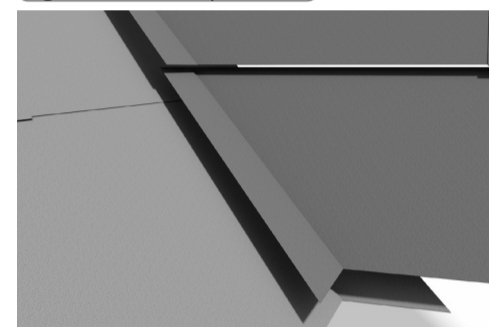

fig 8: Valley laps
8. Where valleys occur, the Danelaw LR120TT should be laid not less than 300mm beyond the centre line of the valley on each side (fig. 8). Where a continuous length of underlay is laid up the length of the valley, it should be a minimum of 600mm wide and the underlay from either side of the valley should be mitre cut to the appropriate line to suit the valley trough installation requirements.